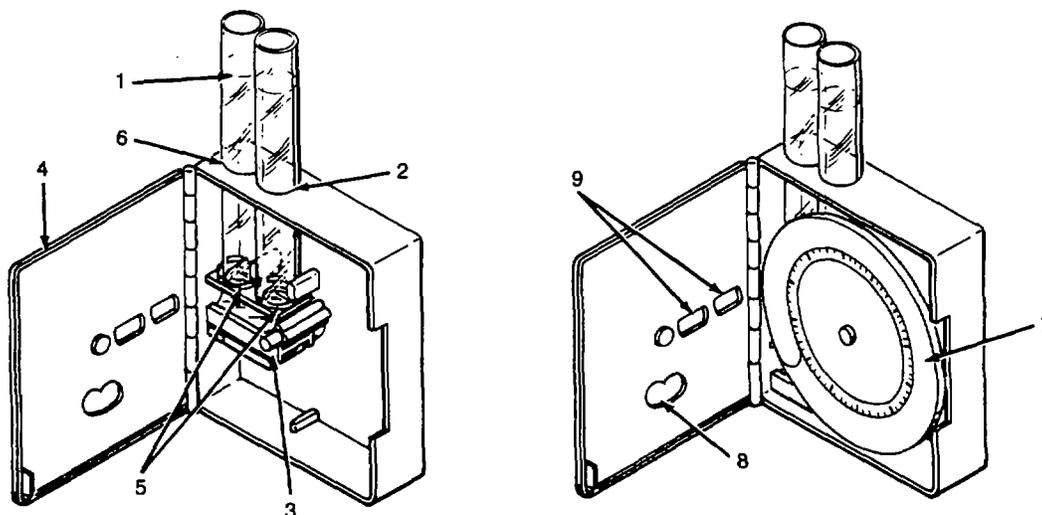

Figure 2-13. Color Comparator, Low Range Test.
- (1) Open door(4, fig. 2-13) on color comparator and remove both viewing tubes(2 & 6). Position viewing adapter for vertical viewing(3).
- (5) Place the viewing tube with FerroVer[®] treated sample in comparator hole nearest the middle(2). Place the untreated sample in the other hole(6).
- (6) Wait 2 to 5 minutes. If ferric iron is present, sample will turn orange. Wait until any bubbles have settled out.
- (7) Ensure that both tubes are fully seated in the recesses(5) in the viewing adapter and that the viewing adapter is fully seated. Insert the standard-color disk(28, fig.1-1) marked 0.0 to 1.0 mg/l, and close the comparator door(4, fig. 2-13).
- (8) Hold comparator up to a light source (window, sky, lamp) and look through the two side-by-side openings(9) in the front. Rotate the standard-color disk(7) until the colors seen through the two windows(9) match.
- (9) Record the reading seen through the scale window(8) in the front of the comparator.